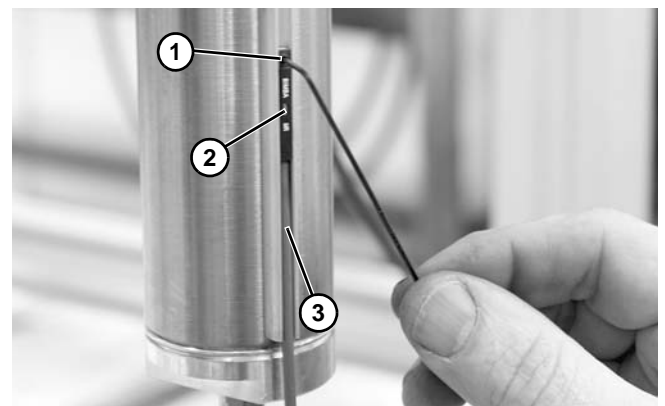

**Figure 16**
3. Place pallet (**Figure 16, item 1**) on lift and locate top plate (**Figure 16, item 2**). Raise top plate to underside of pallet.
4. Install pallet stop (**Figure 16, item 3**). See “Pallet Stops” on page 6.
5. Position stop against pallet and tighten socket head screws (**Figure 16, item 4**).